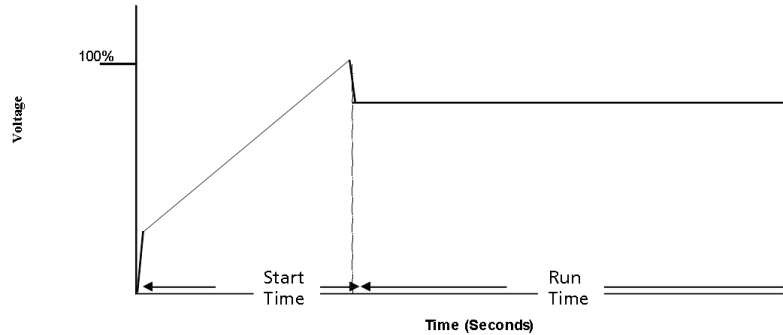

Figure 1. – Timed Soft Start
(1) Timed-Soft-Start
- In this soft start mode, the output voltage to the motor is gradually increased during the start time (See Figure 1).